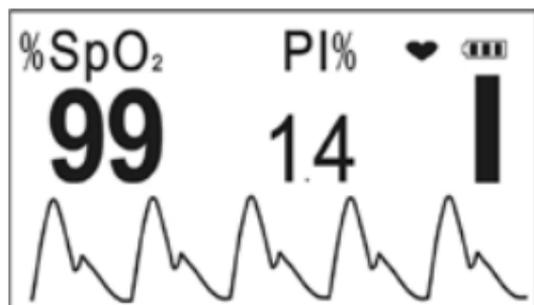
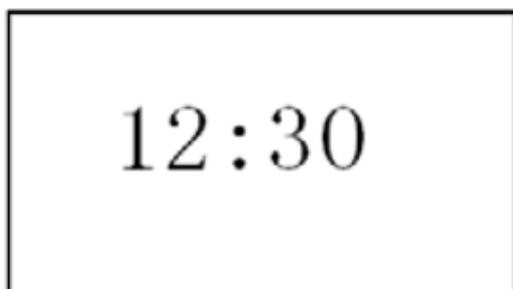

Figure 9C
Figure 9D Real Time Clock
- Short time press “■” key to switch display modes circularly, display screen will be switched among the screens as shown in Figure 9A, Figure 9C and Figure 9D.